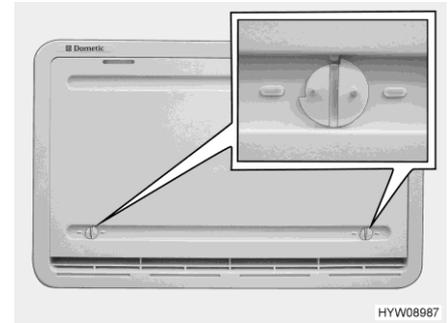

Fig. 133 Winter cover (refrigerator ventilation grill)
The winter covers (Fig. 133) protect the cooling unit against cold air. Place winter covers in front of both refrigerator ventilation grills when the external temperature falls below +10 °C (both for gas and electrical operation).
- Open both locks (Fig. 133) (groove in horizontal position).